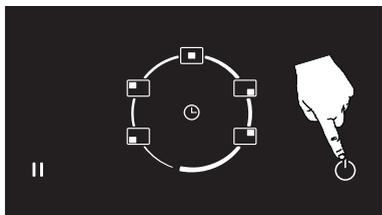

Figure 9
1. A selected cooking area may be turned off by pressing the on/off button (). (See Fig. 9)